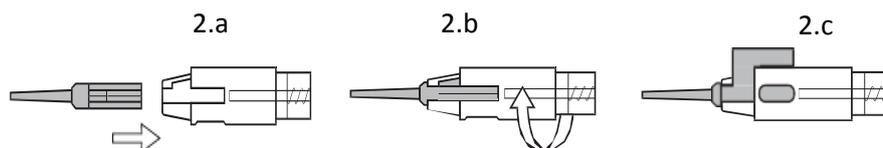

Fig. 2
10. Insert the locked cartridge into the loading bay of the injector body and lock the cartridge with a gentle rotation of the wings as shown in Fig. 2.